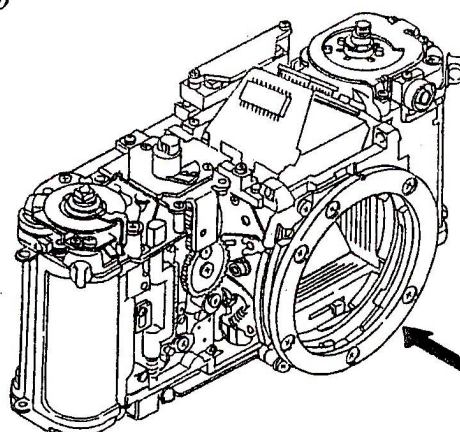

Fig.73
- ① Connect 3V power supply.
- ② Turn ON the Check Switch for power-on (The power is held for 16 sec.)
- ③ Set a high brightness (LV16 or above) so that sufficient photocurrent flows in the SPD. (See Fig.73)
- ④ Measure the voltage of Ph1.
- ⑤ Measure the voltage of Ph2.
- ⑥ Make adjustment by turning VR1 so that the value of Ph1-Ph2 becomes 0 to 7mV.